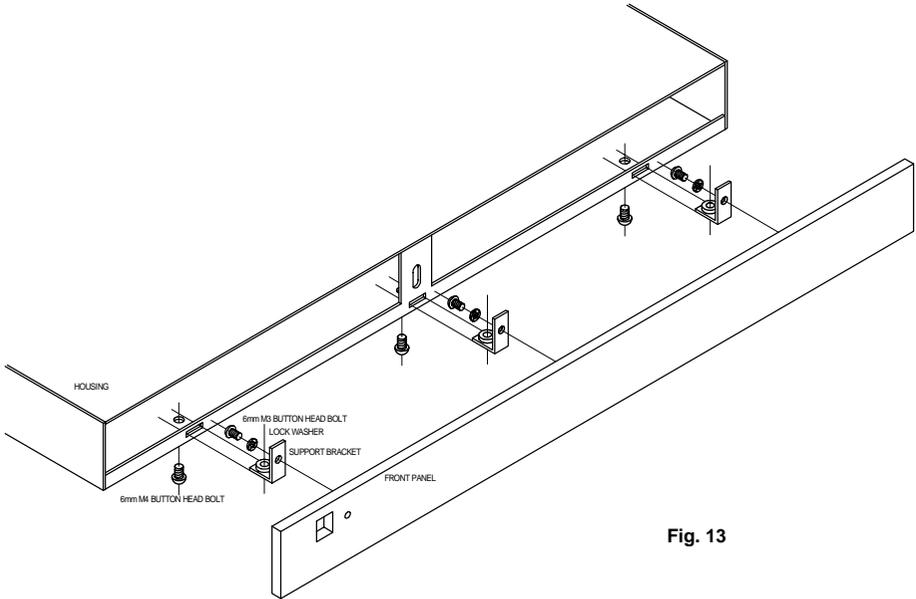

Fig. 13
- Mount the front panel to the cabinet, use the support brackets supplied, together with M3 and M4 Allen bolts. Check the position of the switch and the LED (see figure 13).